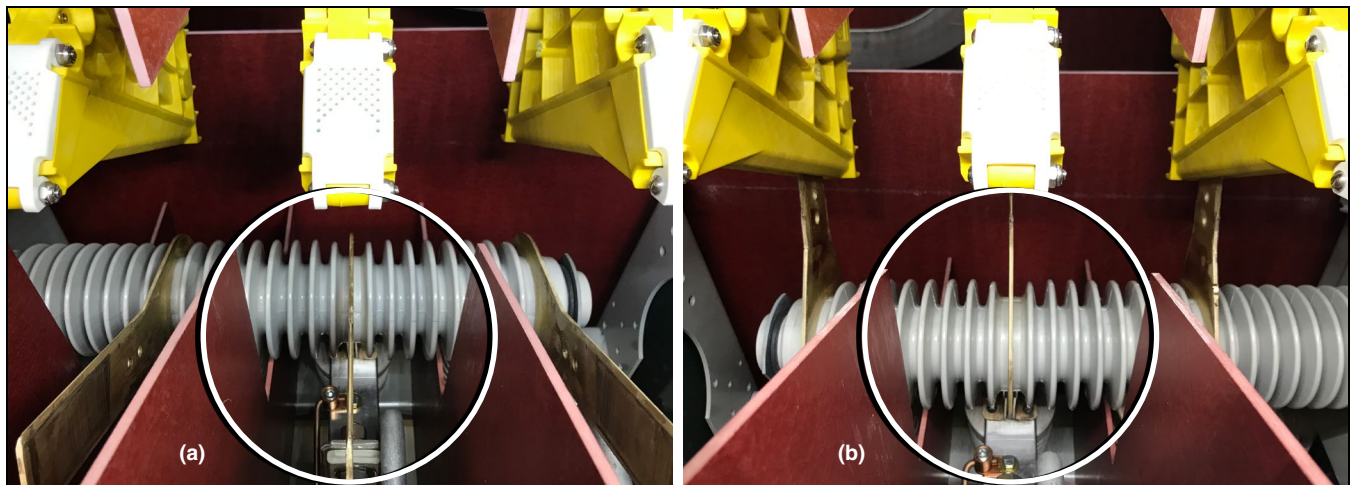

Figure 13. (a) Shows the switch in the Open position, and (b) shows the switch in the Closed position.
- STEP 5.** Check the physical position of the switch using the viewing window provided in the switch-termination compartment. See Figure 13.